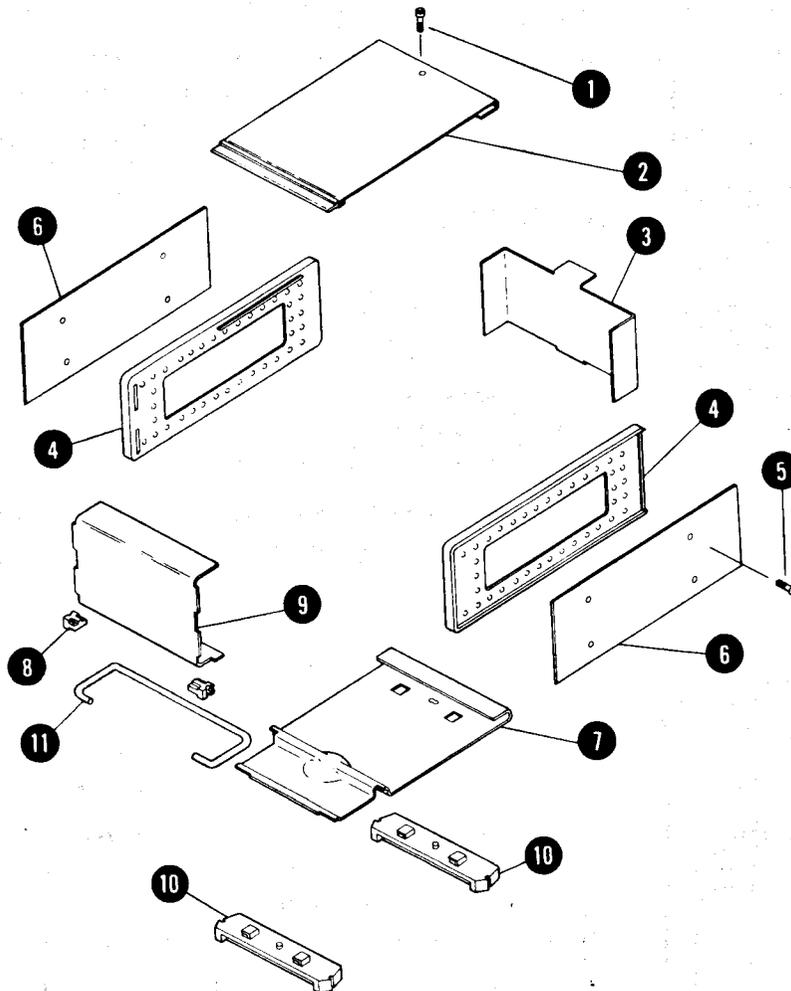

Figure 10. Cabinet Parts Exploded View
CABINET PARTS (SEE FIGURE 10)
64. **Disassembly of A3 Sampling Gate Assembly.** For steps 1 through 3 see Figure 11. Refer to Figure 10 steps 4 through 8.